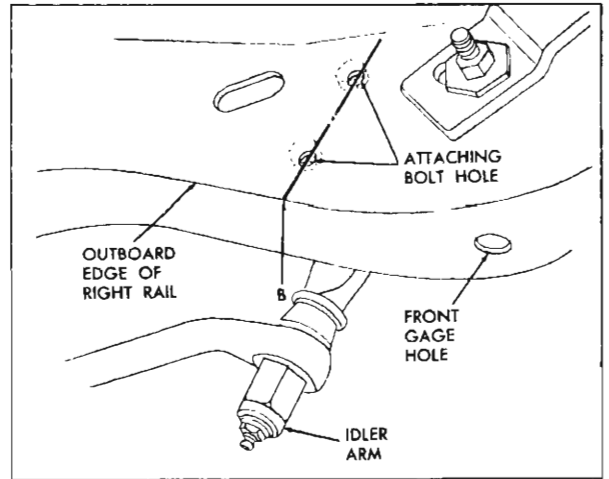

Fig. 11-2 Underbody Vertical Reference Point ("B")
a. Front gage hole in lower surface of motor compartment side lower rail Fig. 11-2 and 11-3.
b. Outboard lower edge of motor compartment right side rail on centerline drawn through idler arm attaching bolt holes Fig. 11-2.